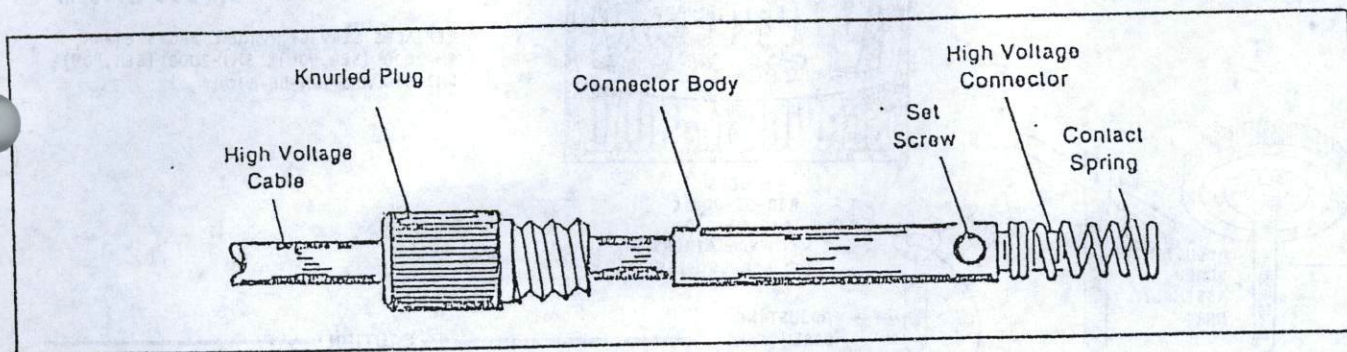

Figure 2-2 Spring Loaded Cable Connector
- Refer to Figure 2-2. Disconnect line power to the power unit and unscrew the spring loaded cable connector.
- Slide the knurled plug onto the cable with the threaded end toward the end of the cable as shown in Figure 2-2.
- Screw the contact spring (close turns end first) onto the high voltage connector as shown in Figure 2-2.